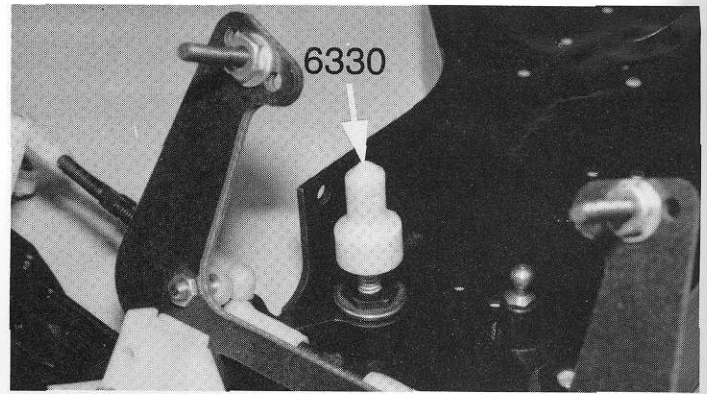

**Fig. 30**
□ **Fig. 30** (1) Install the #6254 bell crank steering assembly loosely over the two aluminum screws that are holding the nose plate to the chassis. (2) Next, thread the two #6254 nylon sleeve insert nuts (from fig. 26) onto the #6280 and #6281 aluminum screws. **Note:** The sleeve nut is not threaded, so you will be making your own threads as you go. (3) Now go ahead and thread the right hand sleeve nut onto the #6281 screw. Make sure it lines up and slides inside the bushings of the right hand bell crank steering arm as it goes down. (4) Then lightly tighten it against the nose